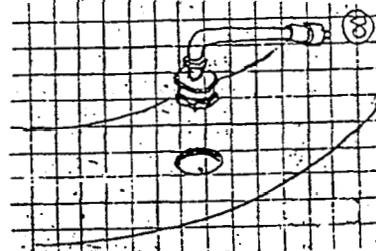

Fig. 8
- 6) Install valve assembly ⑧ to rim ①. (Fig. 8)